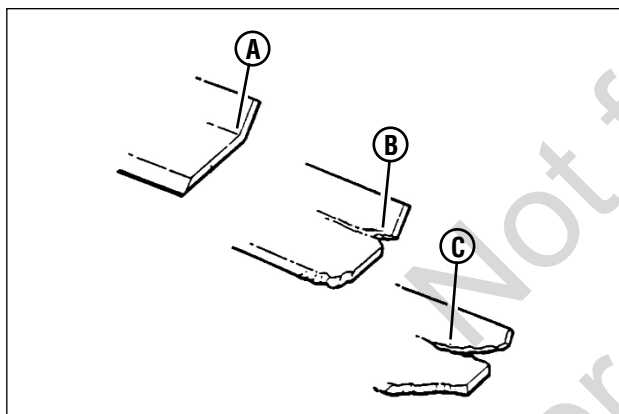

Figure 15: Mower blade wear limits
- Inspect the blade (**Figure 15**) frequently for signs of excessive wear or damage:
- (A) New blade
- (B) Wear limit (notch starts)
- (C) Dangerous condition! Do not use on the mower! Replace with a new blade.